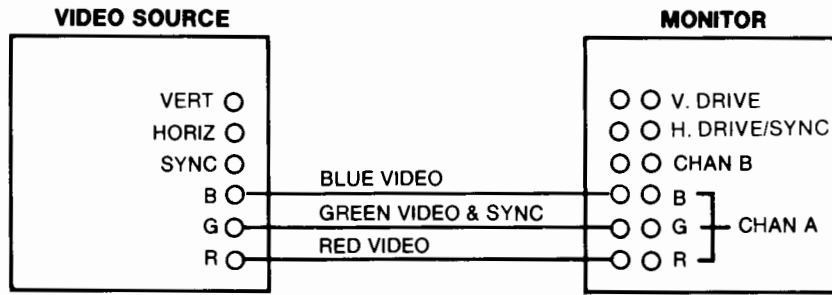

Figure 8-3. HP 13279B Cable Connections.
- a. Connect one cable from the RED video output on the HP 98627A Interface to the CHANNEL A RED IN connector (J1) at the rear of the monitor (see Figure 8-3).
- b. Connect one cable from the GREEN video output on the HP 98627A Interface to the CHANNEL A GREEN IN connector (J3) at the rear of the monitor (see Figure 8-3).
- c. Connect one cable from the BLUE video output on the HP 98627A Interface to the CHANNEL A BLUE IN connector (J5) at the rear of the monitor (see Figure 8-3).